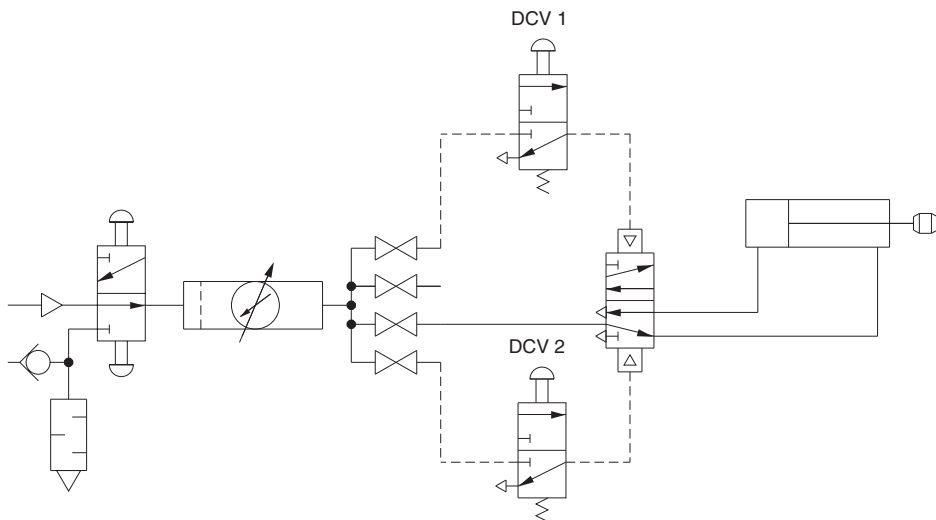

Figure 4-4. Schematic Diagram of a Pilot-Operated Circuit.
- ☐ 2. Retract the piston rod of the Double-Acting Cylinder and connect the circuit shown in Figure 4-4.
- ☐ 3. From the schematic diagram shown in Figure 4-4, predict which of the valves DCV1 or DCV2 controls the extension and/or the retraction of the piston rod?
- ☐ 5. Push down the button on the directional control valve DCV2 to set the spool in the pilot-operated valve as illustrated in Figure 4-4. The piston rod should be retracted.